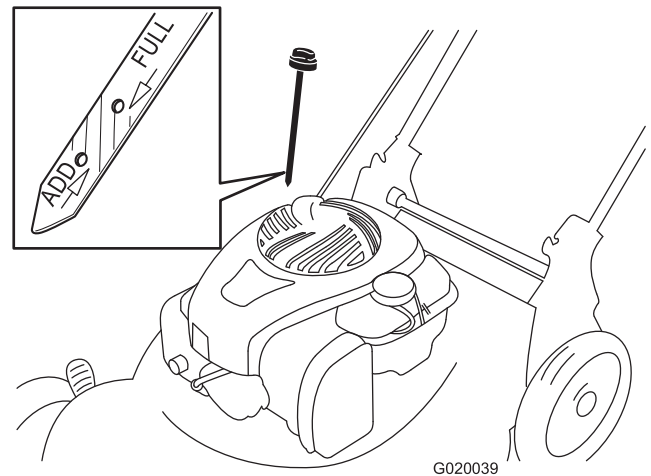

Figure 17
7. Remove the dipstick and read the oil level on the dipstick (Figure 17).